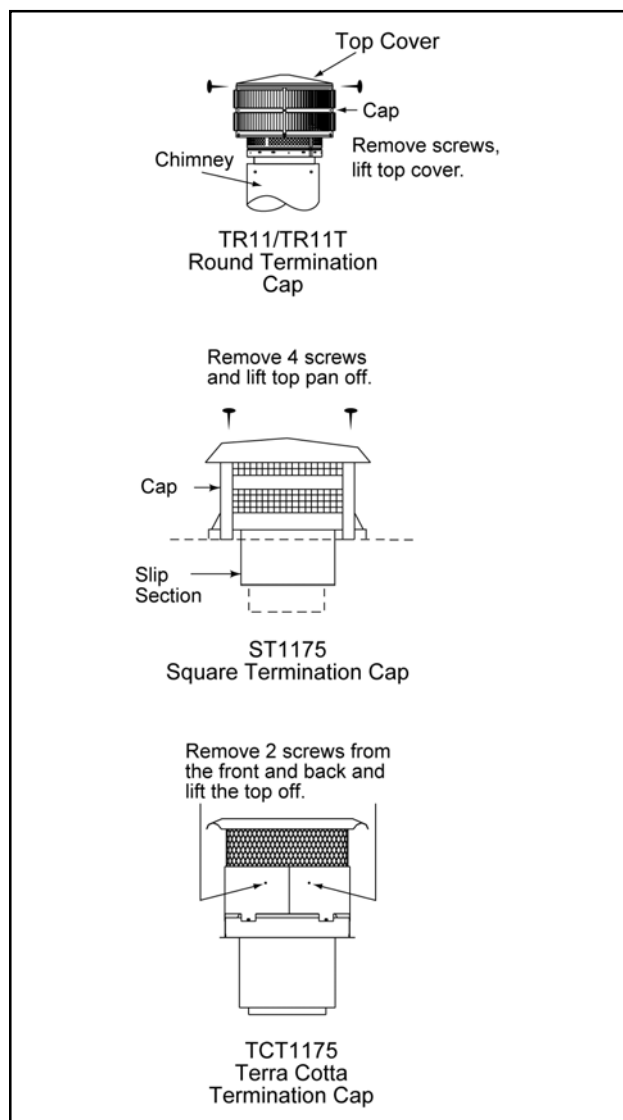

Figure 25
- c. Remove the termination cap or housing top. See Figure 25.